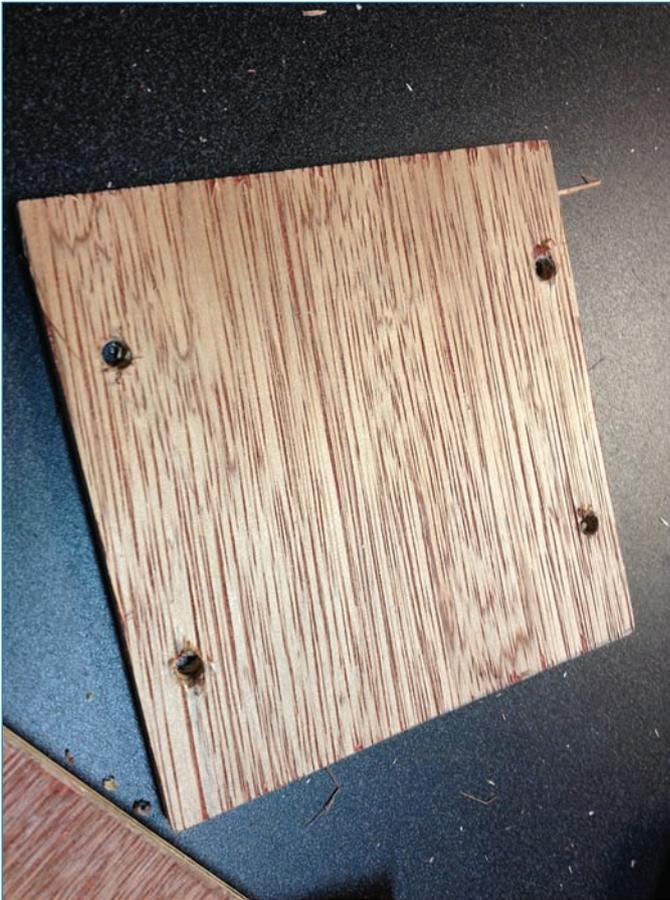

FIGURE 11.16 The side panels, ready for installation.
9. Cut side panels out of the 5mm plywood. They should be 4" on a side (see Figure 11.16). You'll need to drill holes in the wood to attach the panels to the top and bottom support blocks; placement of these holes isn't super tricky, as long as it looks good and connects to the support blocks. If you want to, at this time you can attach them to the top of the enclosure.